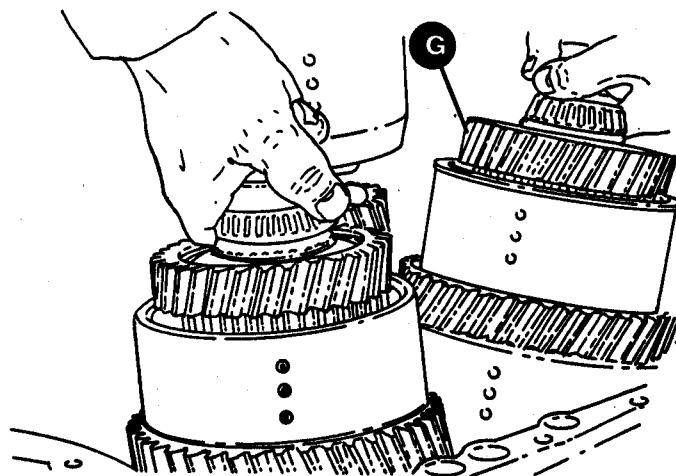

Figure 13.
15. With the help of an assistant, lift and tilt both mainshaft and input clutches as shown in Figure 13; then tilt and lift out the reverse clutch (G).
17. Lift out the input clutch (H, Figure 13).